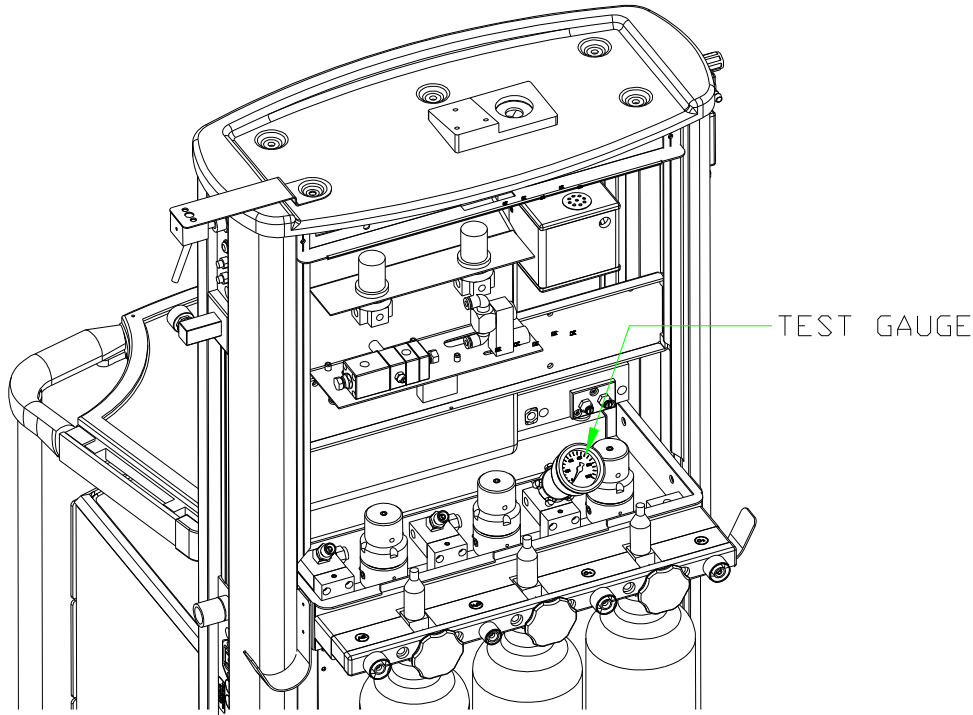

Figure 15: Test Gauge in Workstation
- f. Put the manometer on the oxygen test point as per Figure 15.
2. 3. Set up of operation of Oxygen Failure Alarm (see Figure 15)